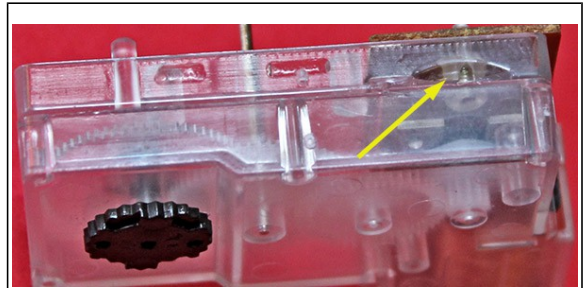

Fig. 57: Thumbnail slot in housing.
- The housing halves are held together with pins on one side that friction-fit into holes on the other side. Insert your small screwdriver between the housing halves at one of the thumbnail slots, and gently pry or twist to split the housing apart. Work your way around the housing until the halves are free. See Fig. 56 and Fig. 57.